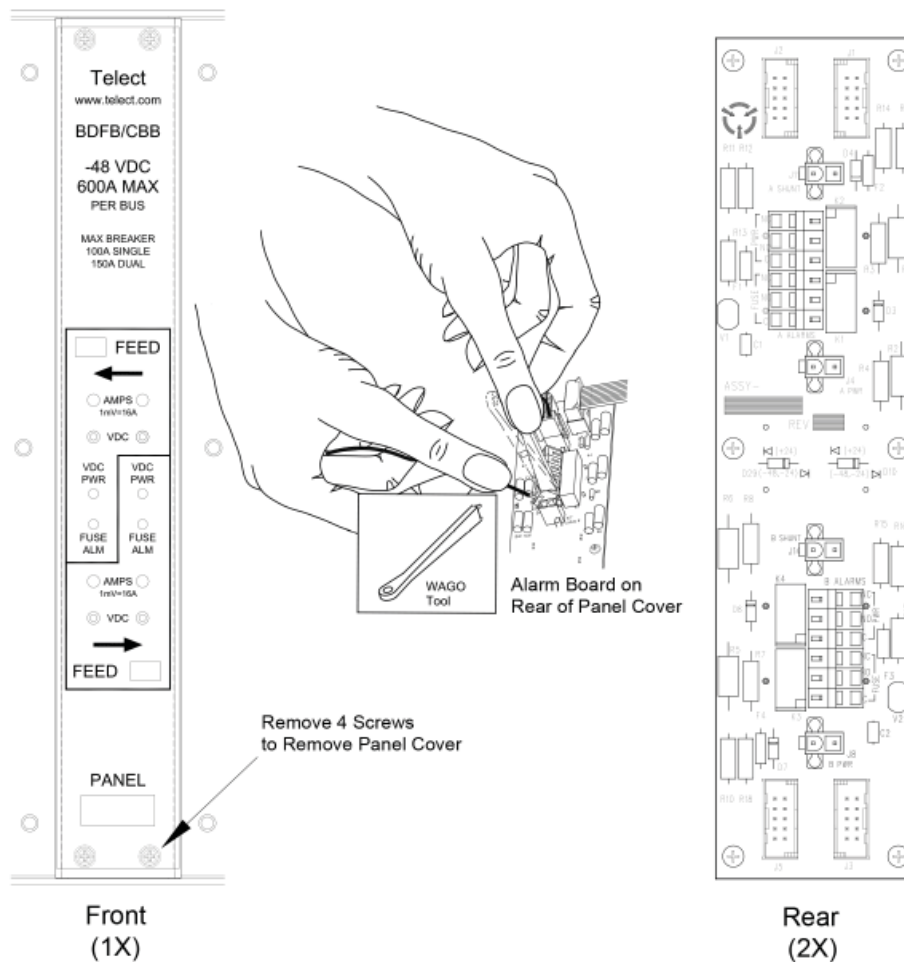

Figure 16 - Installing Alarm Cabling
1. See Figure 16 and then remove four Phillips screws (screws with cross-recessed heads) securing the alarm panel.
4. Select a common (C) contact and either a normally closed (NC) or normally open (NO) contact for each alarm desired: